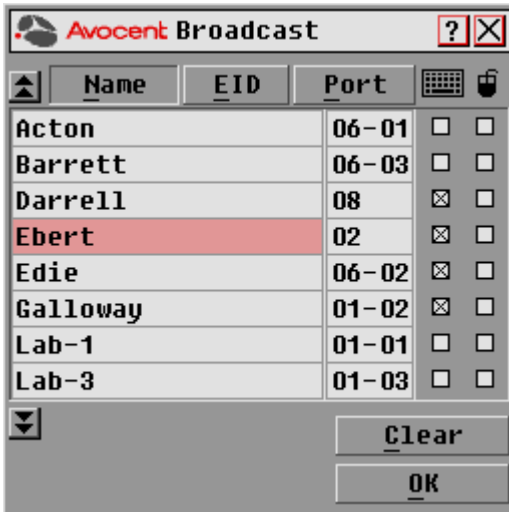

Figure 3.10: OSCAR Interface Broadcast Dialog Box
2. Click *Setup - Broadcast* to open the Broadcast dialog box as shown in Figure 3.10 on page 25.